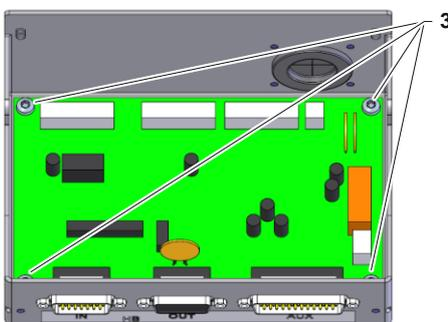

Fig. 3: DFM-51 evaluation unit
- Remove screws (Label 3 → Fig. 3).
- Attach screws (Label 3 → Fig. 3).